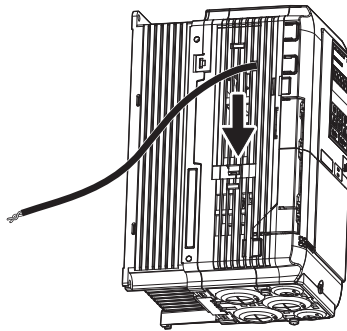

Figure 4.25 Reattaching the Connector Cover (2)
- Slide the connector cover back into place as shown in Figure 4.25.